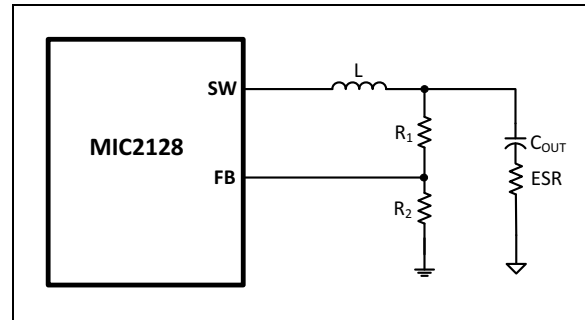

FIGURE 5-5: Enough Ripple at FB.
1. Enough ripple at the feedback due to the large ESR of the output capacitor (Figure 5-5). The converter is stable without any additional ripple injection at the FB node. The feedback voltage ripple is given by Equation 5-26.